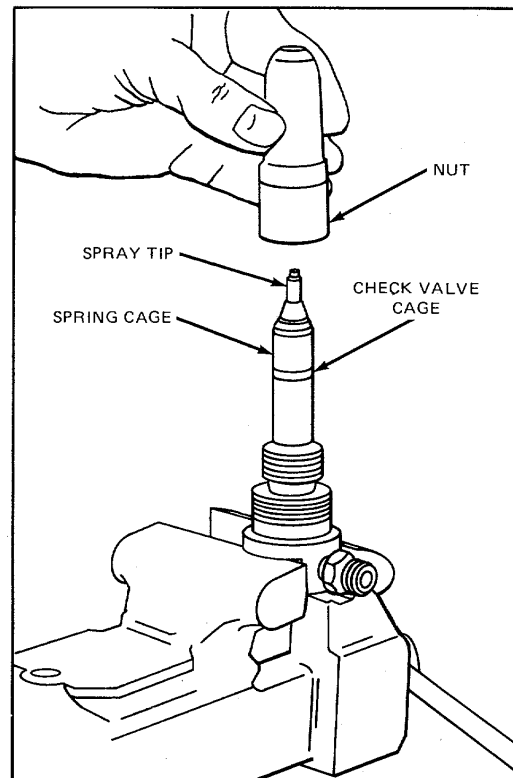

Figure 14. Assembling Injector Valve Parts on Tip Tester Adaptor J 23010-129
2. Carefully pilot the injector nut over the spray tip and valve parts and thread it onto the adaptor (Fig. 14).